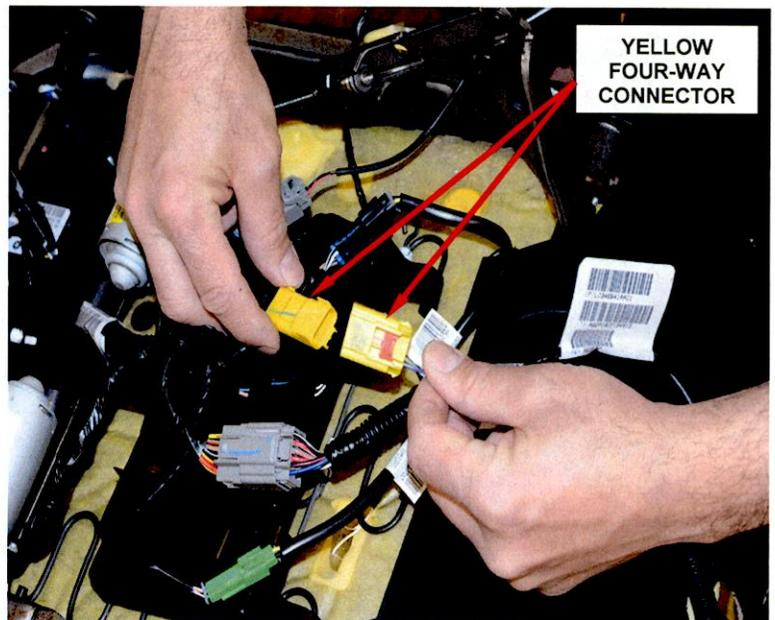

Figure 3 – Disconnect Yellow Four-Way Connector
6. Disconnect the yellow four-way wiring connector from the seat cushion wiring harness (Figure 3).